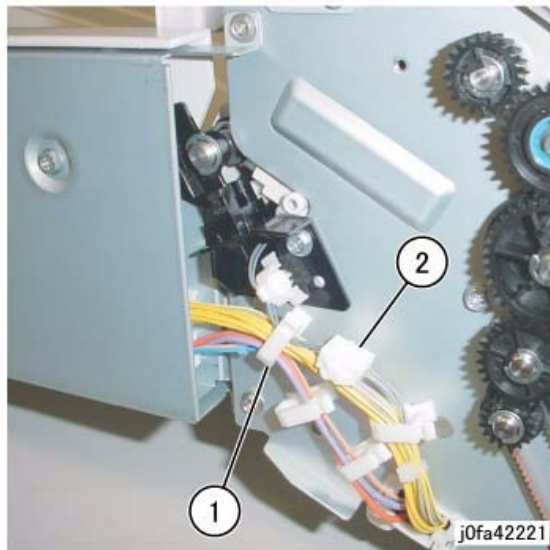

Figure 1 Disconnecting Connector (j0fa42221)
3. Disconnect the Connector. (Figure 1)